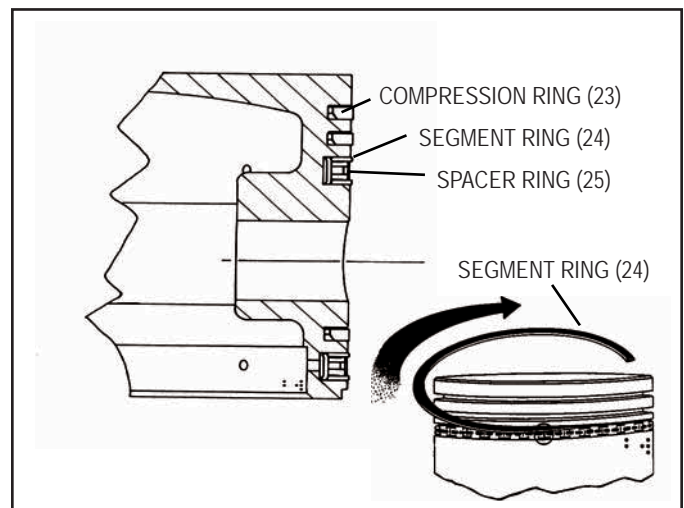

FIGURE 14 - PISTON & RINGS
1. Install the spacer and segment rings as follows. Place the spacer ring (25) in the piston groove, the ends of the spacer must butt and not overlap. Install the top segment (24) by inserting one end above the spacer in the ring groove, 120 degrees from the spacer ends and wind the segment into position. Install the bottom segment in the same manner beneath the spacer, making sure the gap is staggered 120 degrees from both the top ring segment and the spacer end gaps. Before using be sure both painted ends of the spacer are visible and butted. (Refer to Figure 14.)
2. Install the compression rings (23) in the proper grooves with the "pip" mark toward the top of the piston. (Refer to Figure 14.)